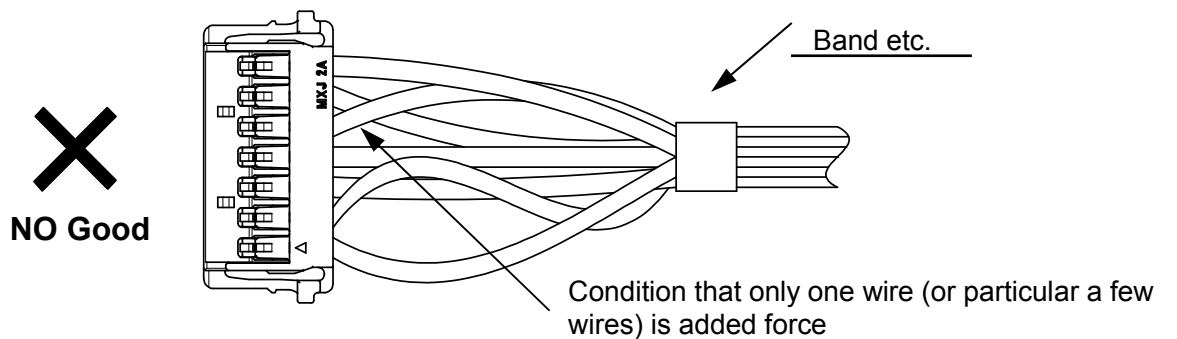

Fig.7-2 Condition that harness is banding improperly
- ② Concerning harness, please consider that only one wire (or particular a few wires) is not added force. (**Fig.7-2**)